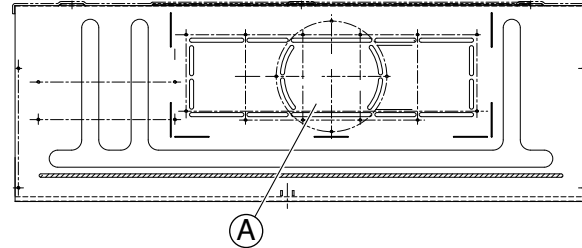

Fig. 3-22a
- (5) If the system requires fresh air to be drawn into the unit, cut and remove the insulation (both externally and internally) at the location shown as (A) in Figs. 3-22a and 3-22b.